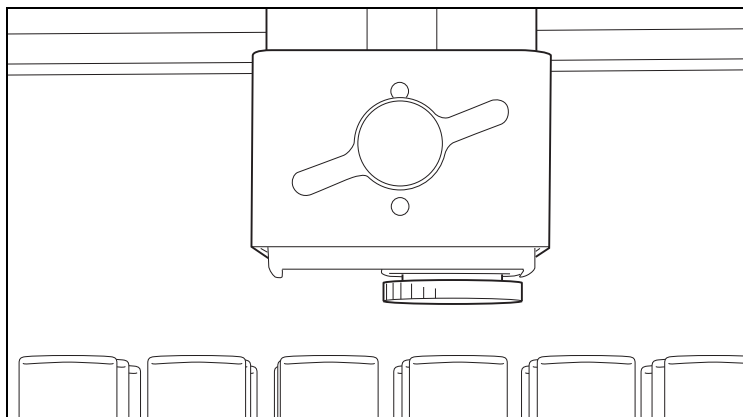

Figure 2-14 Diverter Valve adjusted with  $\frac{1}{2}$  inch or 1 cm clearance (standard diverter valve shown)
4. Lower the diverter valve so that the drop former is close to the top of the collection tubes (Figure 2-14). Generally, a  $\frac{1}{2}$ -inch or 1 cm space between the drop former and the top of the tubes will sufficiently allow unobstructed movement of the arm.